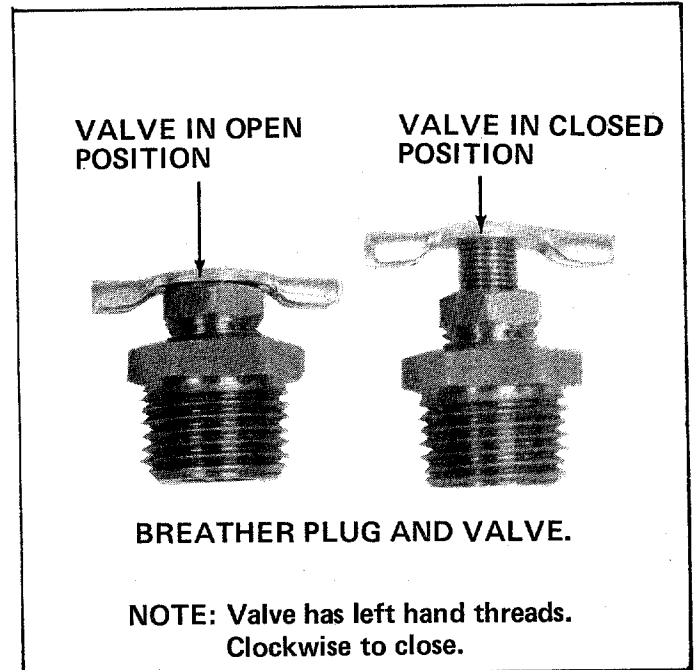

FIGURE 10
3. Open the breather valve. Valve must be open when running log splitter. Valve must be closed when transporting log splitter. See figure 10.